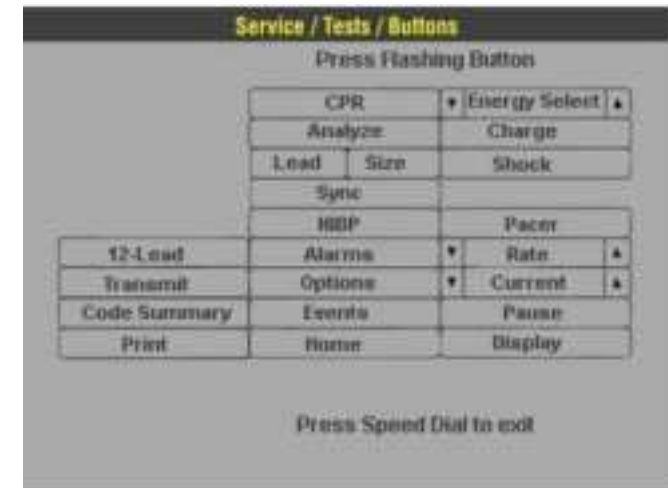

Figure 1.28—Keypad test buttons
3. Select BUTTONS in the Service/Tests submenu. See Figure 1.28.